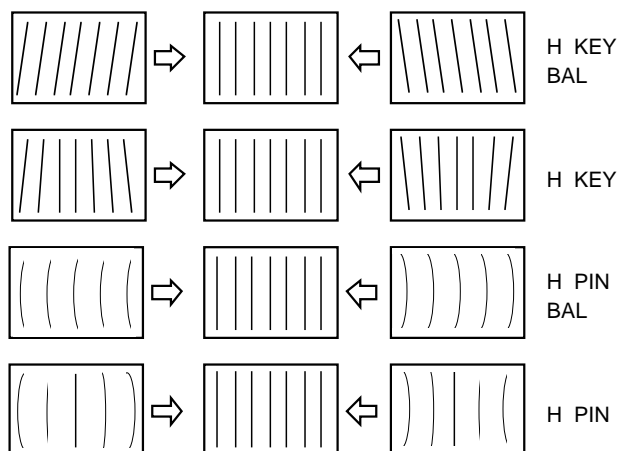

Fig. 1-11
10. Adjust the H KEY BAL, H KEY, H PIN BAL, and H PIN data so that there is no side trapezoid distortion and PIN distortion as shown in Fig. 1-11.